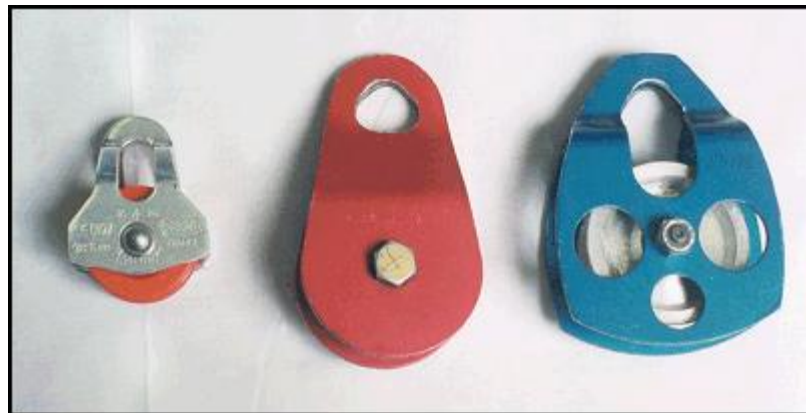

Figure 3-23. Pulley.
1. **Pulleys.** Pulleys are used to change direction in rope systems and to create mechanical advantage in hauling systems. A pulley should be small, lightweight, and strong. They should accommodate the largest diameter of rope being used. Pulleys are made with several bearings, different-sized sheaves (wheel), and metal alloy side plates (Figure 3-23). Plastic pulleys should always be avoided. The side plate should rotate on the pulley axle to allow the pulley to be attached at any point along the rope. For best results, the sheave diameter must be at least four times larger than the rope's diameter to maintain high rope strength.